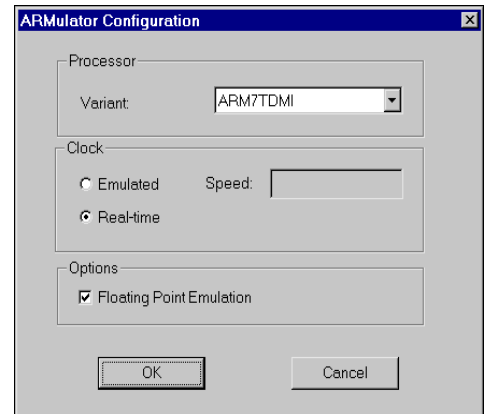

Figure 3-18 Configuration of ARMulator
4. Click on the **Configure** button. The ARMulator Configuration dialog is displayed (Figure 3-18).